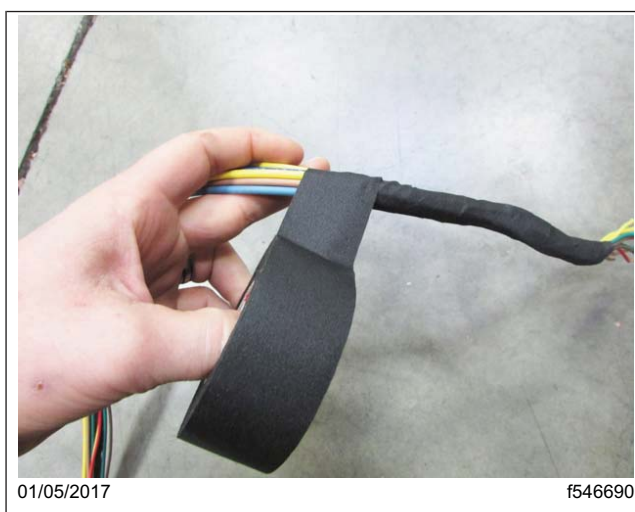

Fig. 30, Wrapping the Harness with Fiber Tape
37. Wrap the exposed section of harness (A06-93018-084) with fiber wrap tape (48 25910 003). See Fig. 30.